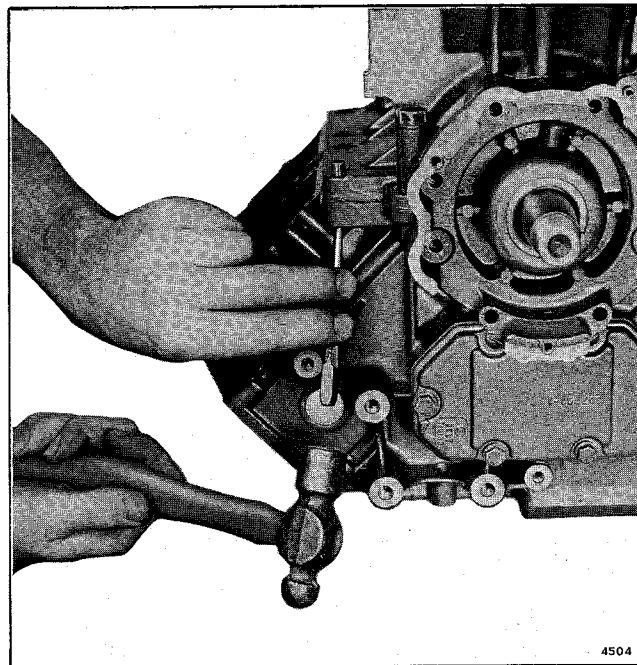

Figure 5-9. Removing Taper Pins
a. Drive two taper pins out of crankcase and cylinder block assembly. Drive from back of crankcase toward front. See Figure 5-9. Remove six large and eight small screws attaching crankcase to cylinder block.